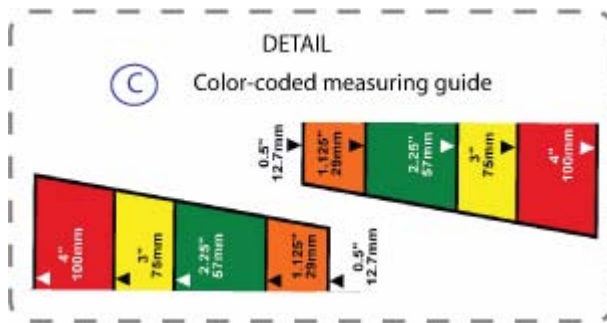

Figure 2-6. Color-coded measuring guide detail.
- Step 1:** Verify your tape's size by noting the colored label in the center of the tape cartridge's handle. **For example**, if your tape is 4", you will see a red label in the center of the tape handle. That red label corresponds to the red bar on the color-coded measuring guide (Figure 2-6).